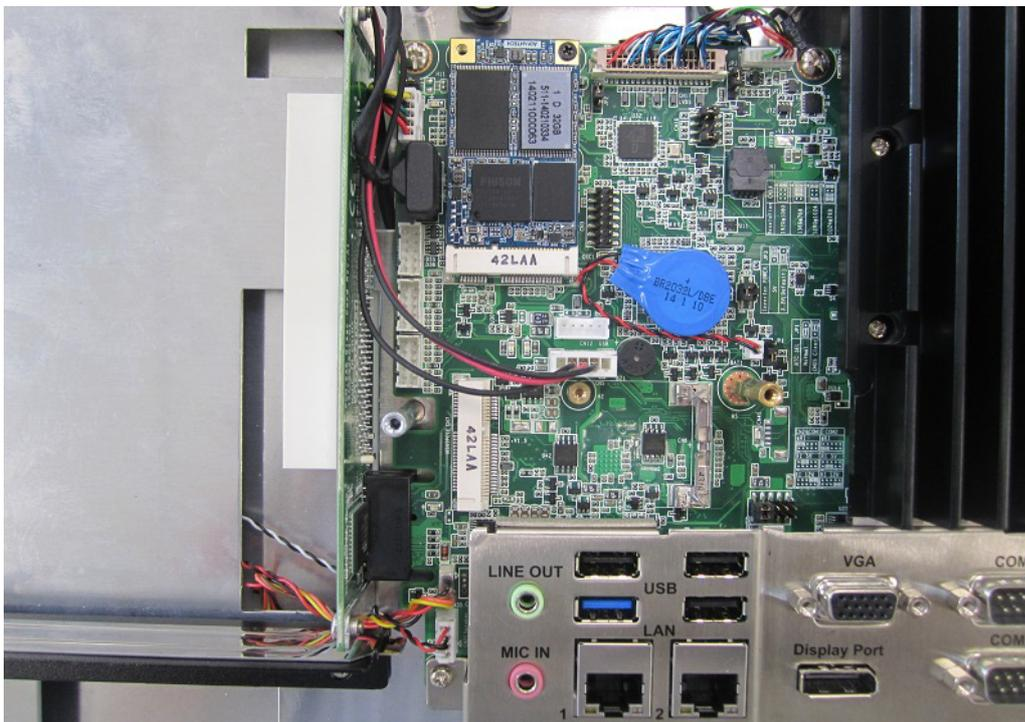

Figure 2.19
1. Follow installation steps 1 ~ 2 in the Section 2.4, and you'll see the disassembled machine as shown in Figure 2.19.